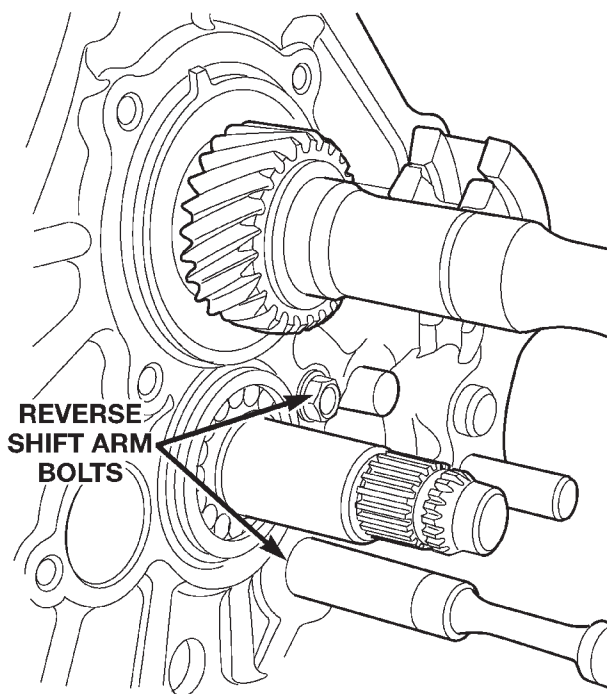

Fig. 60 Remove Reverse Shift Arm Bracket Bolts
(13) Remove bolts holding reverse shift arm bracket to intermediate plate (Fig. 60).